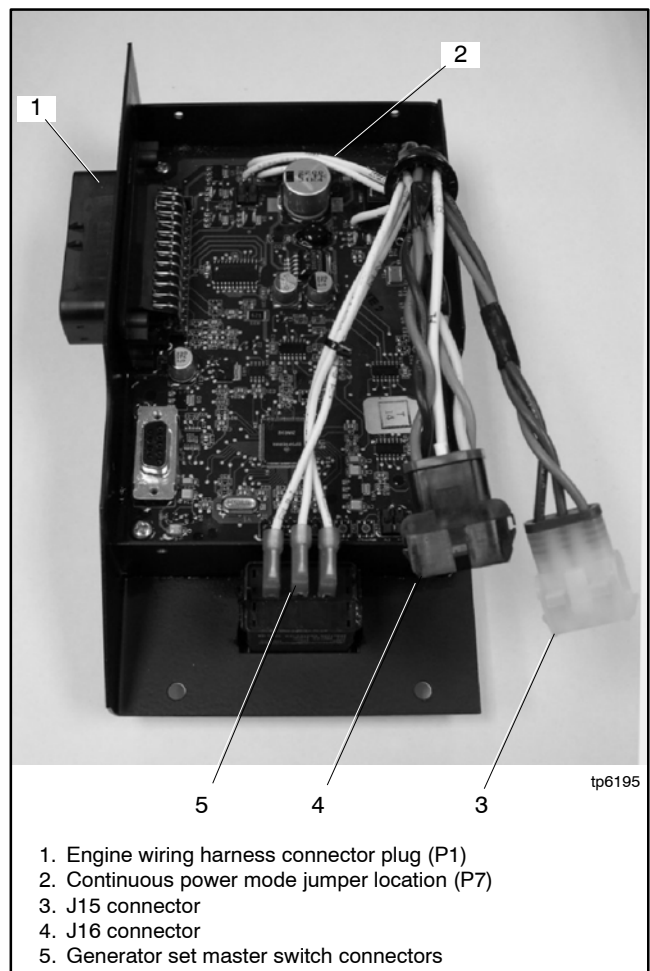

Figure 4-20 Advanced Digital Control Connections
A jumper across controller pins P7-1 and P7-2 maintains power to the controller at all times. See Figure 4-20. Controllers are shipped with the jumper connected for continuous power.
- a. Disconnect the engine wiring harness connector P1 plug (35-pin) from the controller. Disconnect the J15 and J16 connectors. See Figure 4-20.
- a. Note the labels on the three leads connected to the generator set master switch for reconnection later. Disconnect the leads at the pink connectors. See Figure 4-20.
- b. Remove the cover screws and remove the controller's back cover. See Figure 4-20.
4. Locate the P7 connector near the top of the controller. See Figure 4-20. Remove the jumper from pins 1 and 2 of the P7 connector. If the P7 connector has three pins, connect the jumper across pins 2 and 3 for storage.